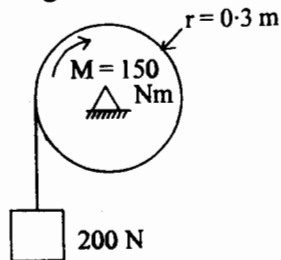

Fig. 12
- (b) A motor provides a constant torque of  $M = 150 \text{ Nm}$  to a hoisting pulley of mass  $25 \text{ kg}$  and mass moment of Inertia  $0.9 \text{ kg m}^2$ . The pulley lifts  $200 \text{ N}$  block starting from rest. Determine speed of block after it rises by  $2 \text{ m}$ . Fig. 12.